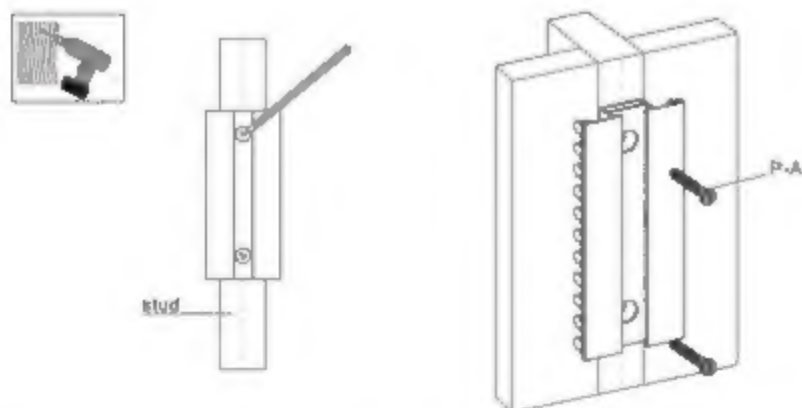

fig. 1.1
- Drill two 1/8" (3mm) dia. Holes 1.2" (30mm) deep. Secure it using two screws (P-A), make sure that the wall plate is level as shown in fig. 1.1.